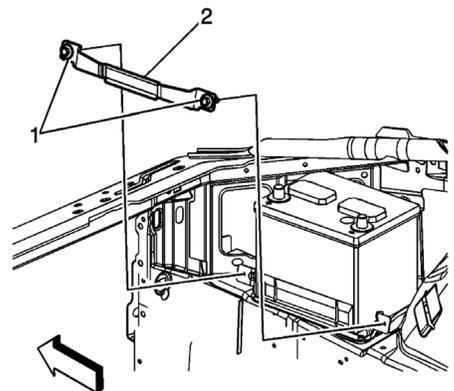

Fig. 7 Battery retainer & bolts
17. Remove battery retainer bolts (1) and retainer (2), **Fig. 7**.